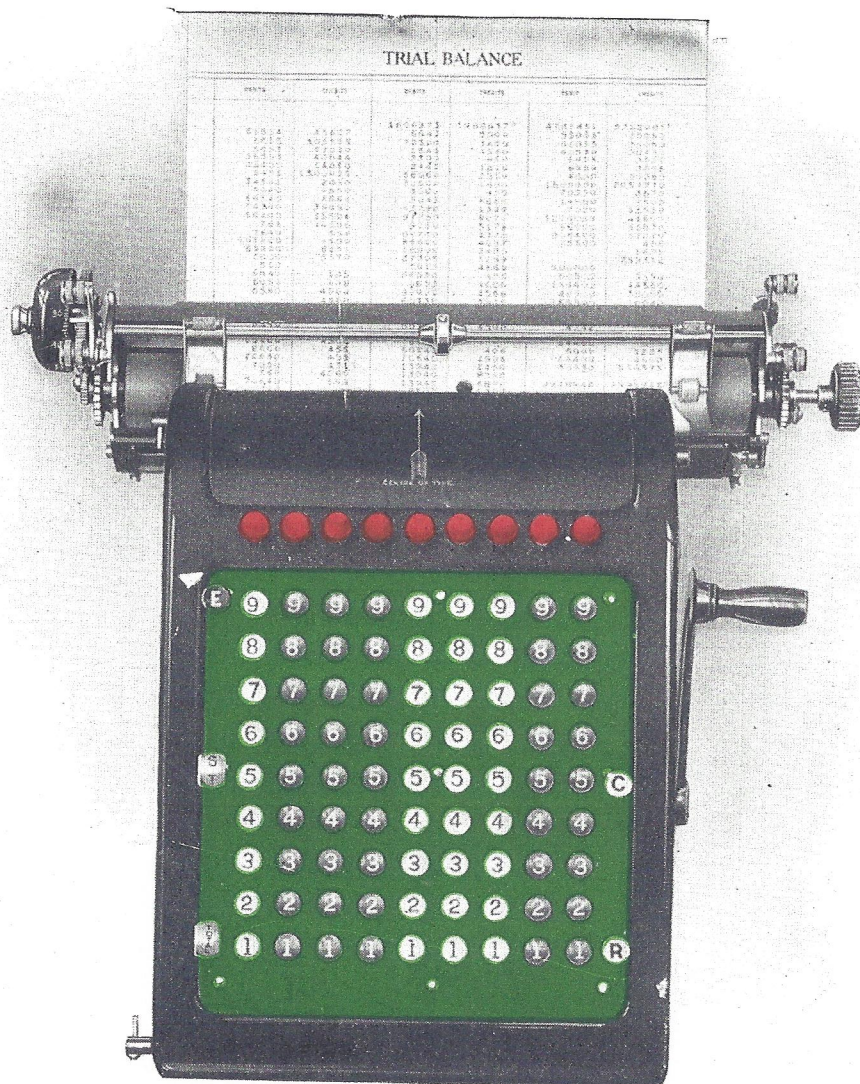

Fig. 43
1. It enables the user to start the various columns of a wide form on exactly the same horizontal line, without even looking at the work. (See Fig. 43.) To do this insert the paper so that the finder indicates the desired printing line of the first item, lift the dial latch and immediately depress it; this sets the paper return lock for the desired upper position. When